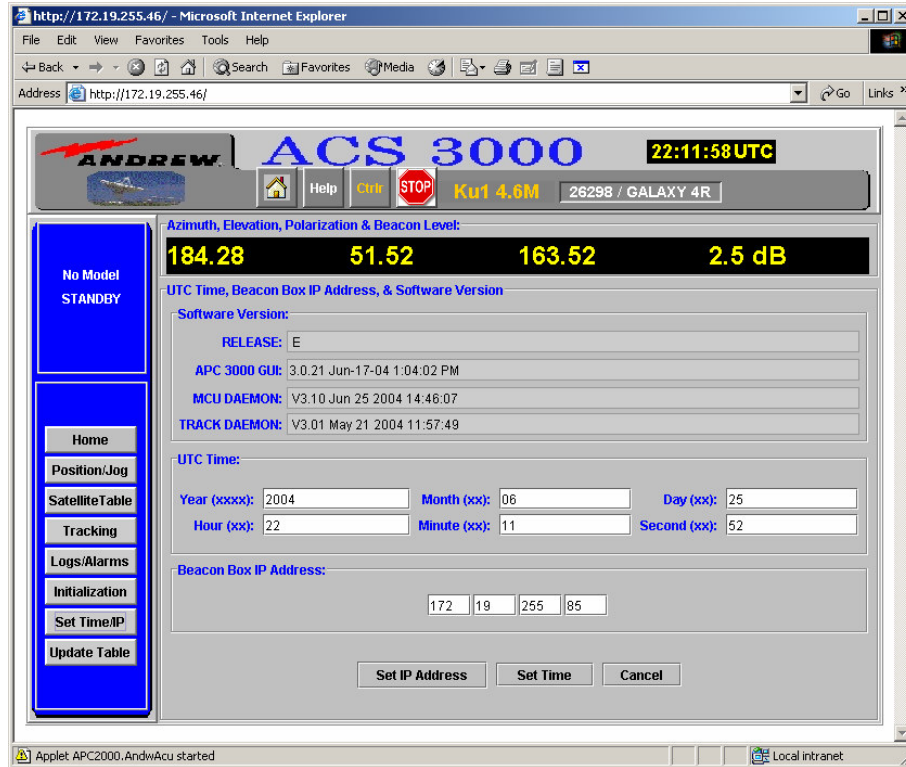

Figure 6: Set Time Screen
**Note:** It must match the IP address of the Beacon Interface Box being used. (See Figure 6.)